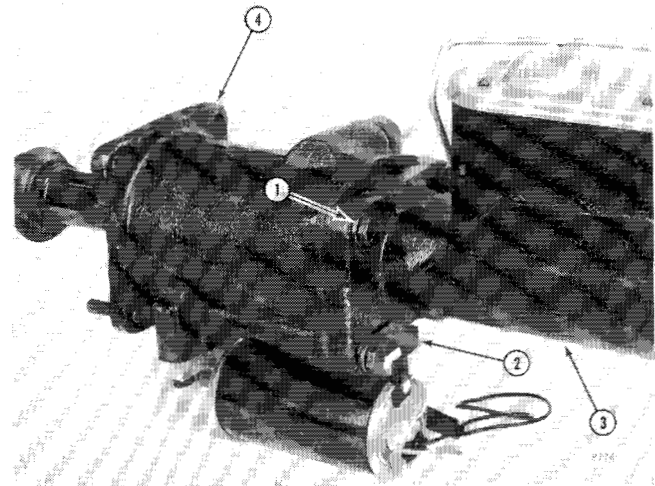

Figure 106
Position master cylinder (3, Figure 106) against power booster assembly (4). Swing grounding bracket (2) back in place and install four capscrews and lock washers (1) in power booster assembly (4).